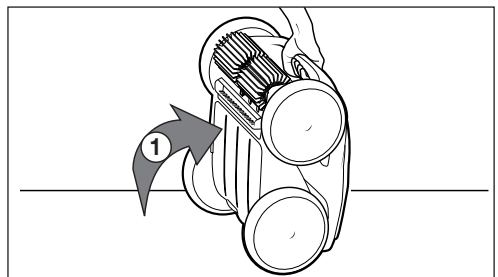

Figure 24. Cleaner in Upright Position
1. Lift the cleaner to a vertical position so that the handle is up. See Figure 24.